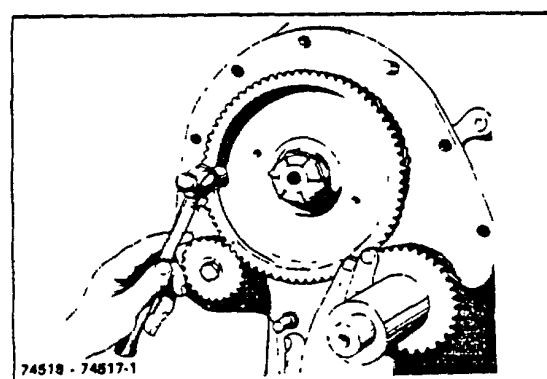

Figure 10-9. Checking Gear Fit
8. To be certain that there is enough clearance, hold finger at the Junction of the two gears and, with a light hammer, tap the rim of the cam gear and note if there is vibration felt at this point (Figure 10-9).